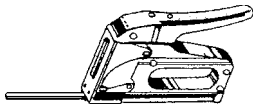

FIGURE 11-2. Staple gun used to attach station wire to wooden moldings or walls.
**Station Wire.** Station wire is designed for inside-outside use in station installations from the station protector to the telephone terminal block. It is designated SW with individual conductors and station wire twisted (SWT) with paired conductors that are twisted and then encased in polyvinyl chloride (PVC). The PVC jacket is tough, and weather and flame-resistant. It provides protection when exposed to weather conditions and inside cleaning products such as detergents, waxes, oils, and most solvents. The wire is installed with a stapling gun. See Figure 11-2.